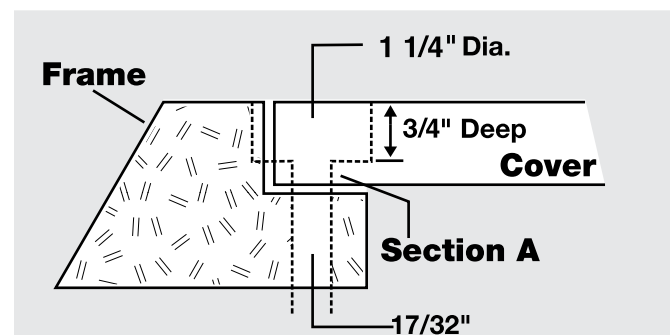

Figure 3
STEP 3: Counterbore 1-1/4" diameter to 3/4" depth (See Figure 3).
When drilling the counterbore, the bit must not go completely through the cover. Bolt seating area must be on the cover (See Section A, Figure 3).